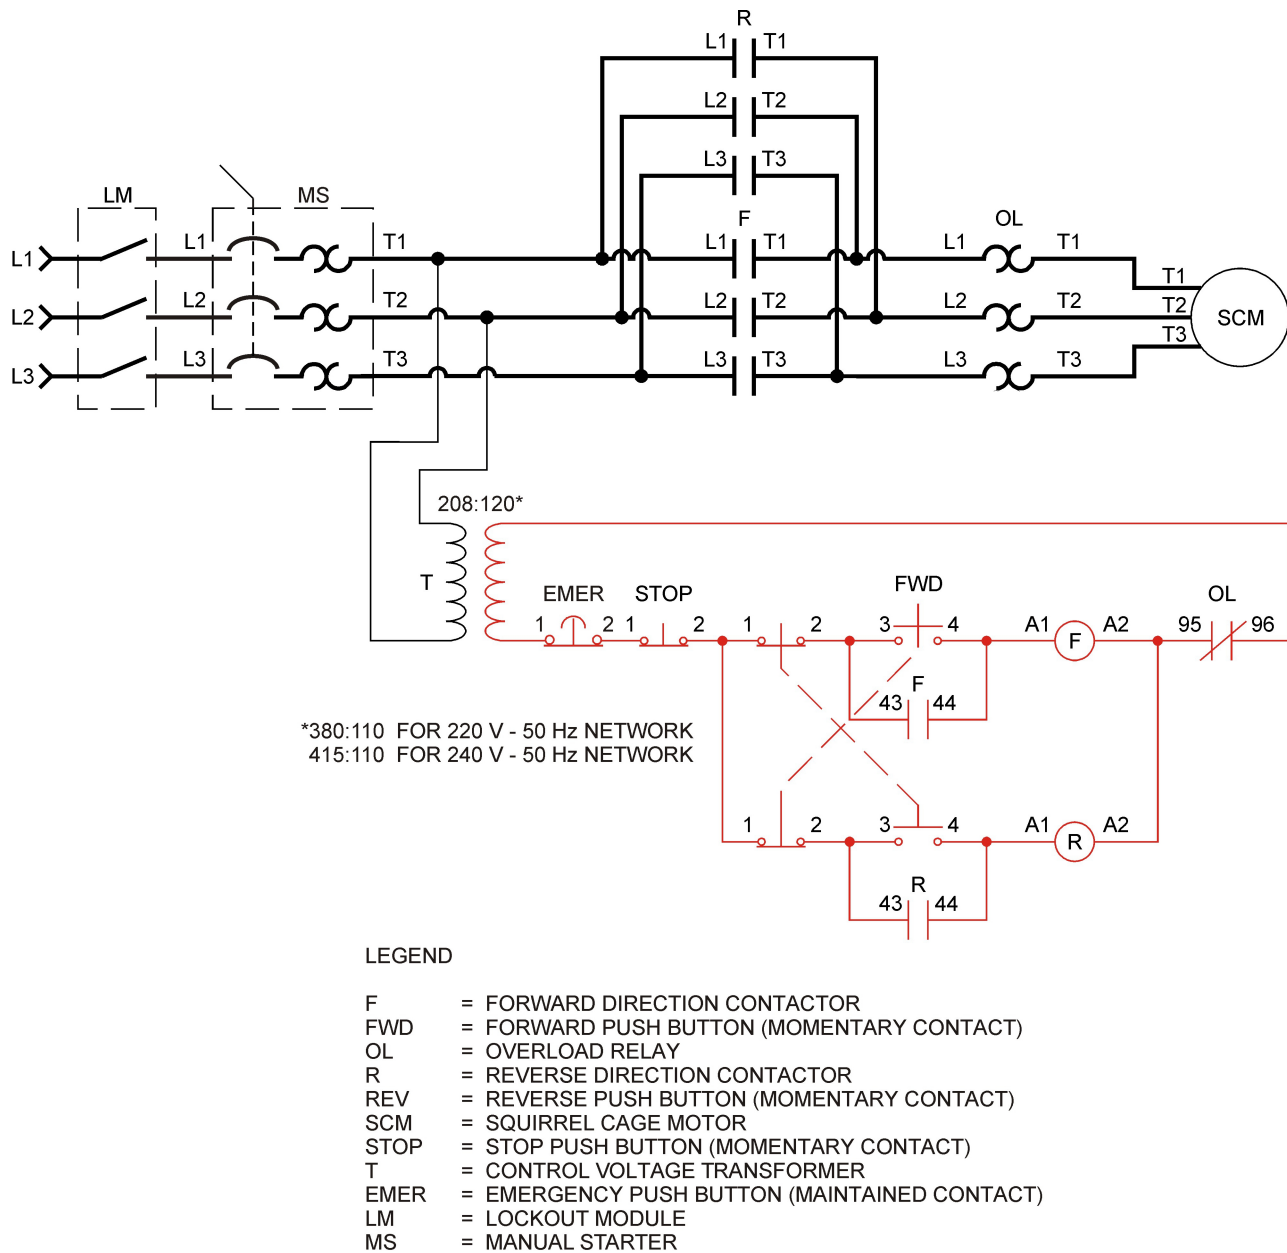

Figure 3-9. Push button interlocking circuit.
When phase reversal is executed in magnetic circuits, one contactor is used for each direction. But a short-circuit can occur if the two contactors are energized at the same time. Look at the Figure 3-9 power circuit, for example. If all contacts of the F and R contactors close, lines 1 and 2 will be short-circuited. That is the reason why forward and reverse contactors are usually electrically and/or mechanically interlocked together.
When the FWD push button in Figure 3-9 is pressed, the coil (F) is energized and the related holding contact closes. If the REV push button is pressed while the motor is running in the forward direction, the forward control circuit de-energizes. At the same time, the reverse contactor (R) is energized and held closed, making the motor run in the reverse direction. Note that it is not necessary to press the STOP push button to reverse direction. This fact facilitates plugging.
Connect the circuit shown in Figure 3-9.
- 24. Connect the circuit shown in Figure 3-9, this time using the two contactors from the Dual Contactors module.